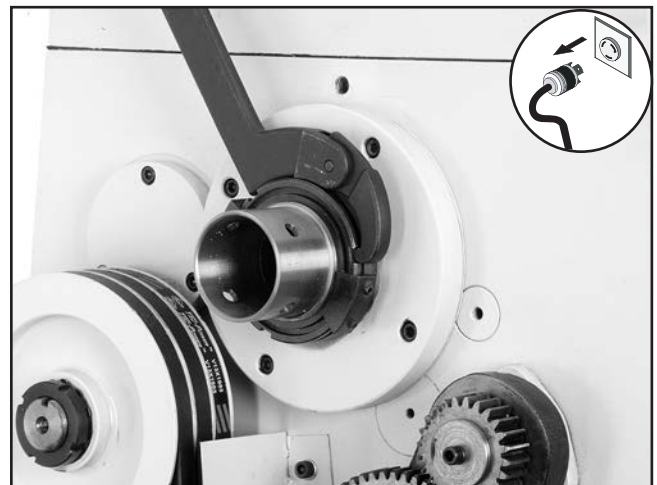

Figure 69. Loosening outboard spanner nut.
6. Using a spanner wrench, or hammer-and-punch, loosen the spanner lock nut (**Figure 69**) counterclockwise three turns.